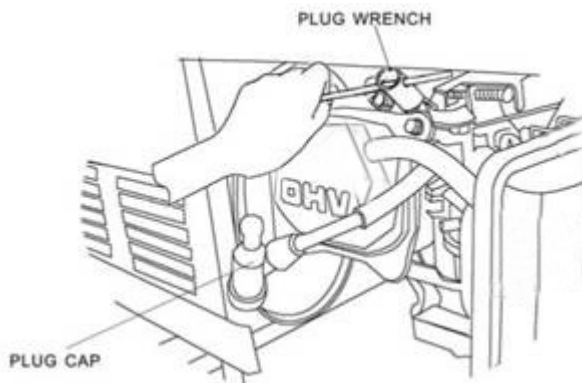

Figure 16 - Removing the Spark Plug
2. Unscrew the spark plug from this generator by using the included spark plug wrench as illustrated in Figure 16.
- Disconnect the spark plug. (See Figure 16, Removing the spark plug.)
| 1 year or more     | Empty the fuel tank. (See "Emptying the Fuel Tank" in the "Maintenance/Care" section.)Disconnect the spark plug. (See Figure 16, Removing the spark plug.) |